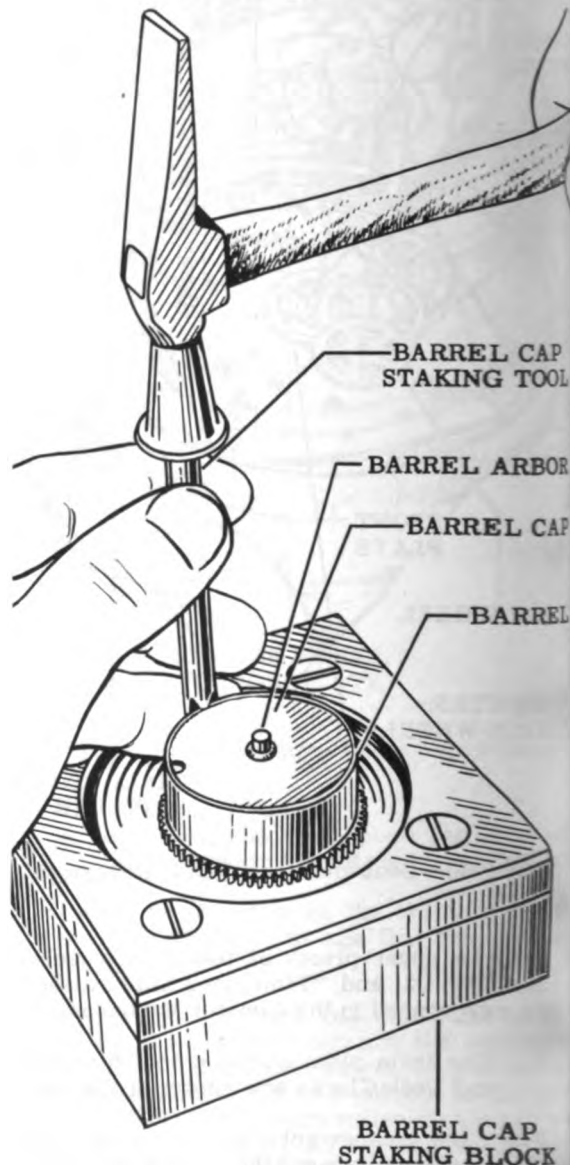

Figure 94
12. Place the mainspring barrel on the barrel cap staking block, Tool No. 12A. Insert the barrel arbor—tapping it lightly with a plastic- or wood-headed hammer if necessary. Turn the arbor so that it engages the inner end of the mainspring. Put on the barrel cover and stake it in position in three places with the special staking tool, Tool No. 11A. See Figs. 94, 95 and 96.